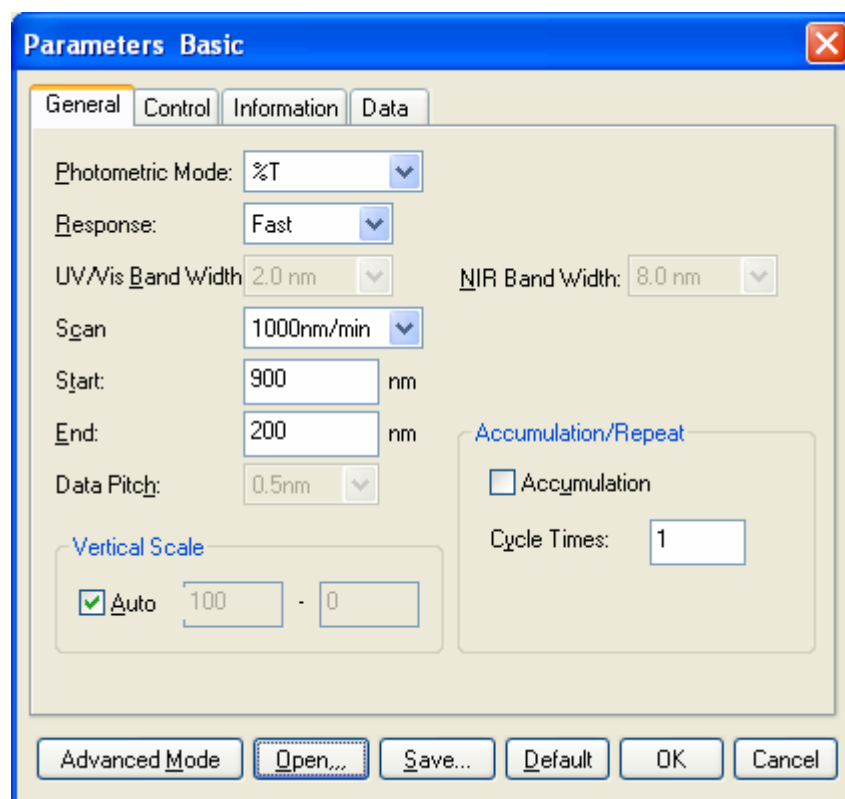

Figure 4.1 [Parameters Basic] Dialog, [General] tab
(1) Select [Parameters...] from the [Measure] menu (or click the  button).
(2) The [Parameters] dialog is displayed (Fig. 4.1). The [General] tab is open by default in the Parameters dialog.
Note 2: The [NIR Band Width] setting shown in Fig. 4.1 is only valid for the V-670.